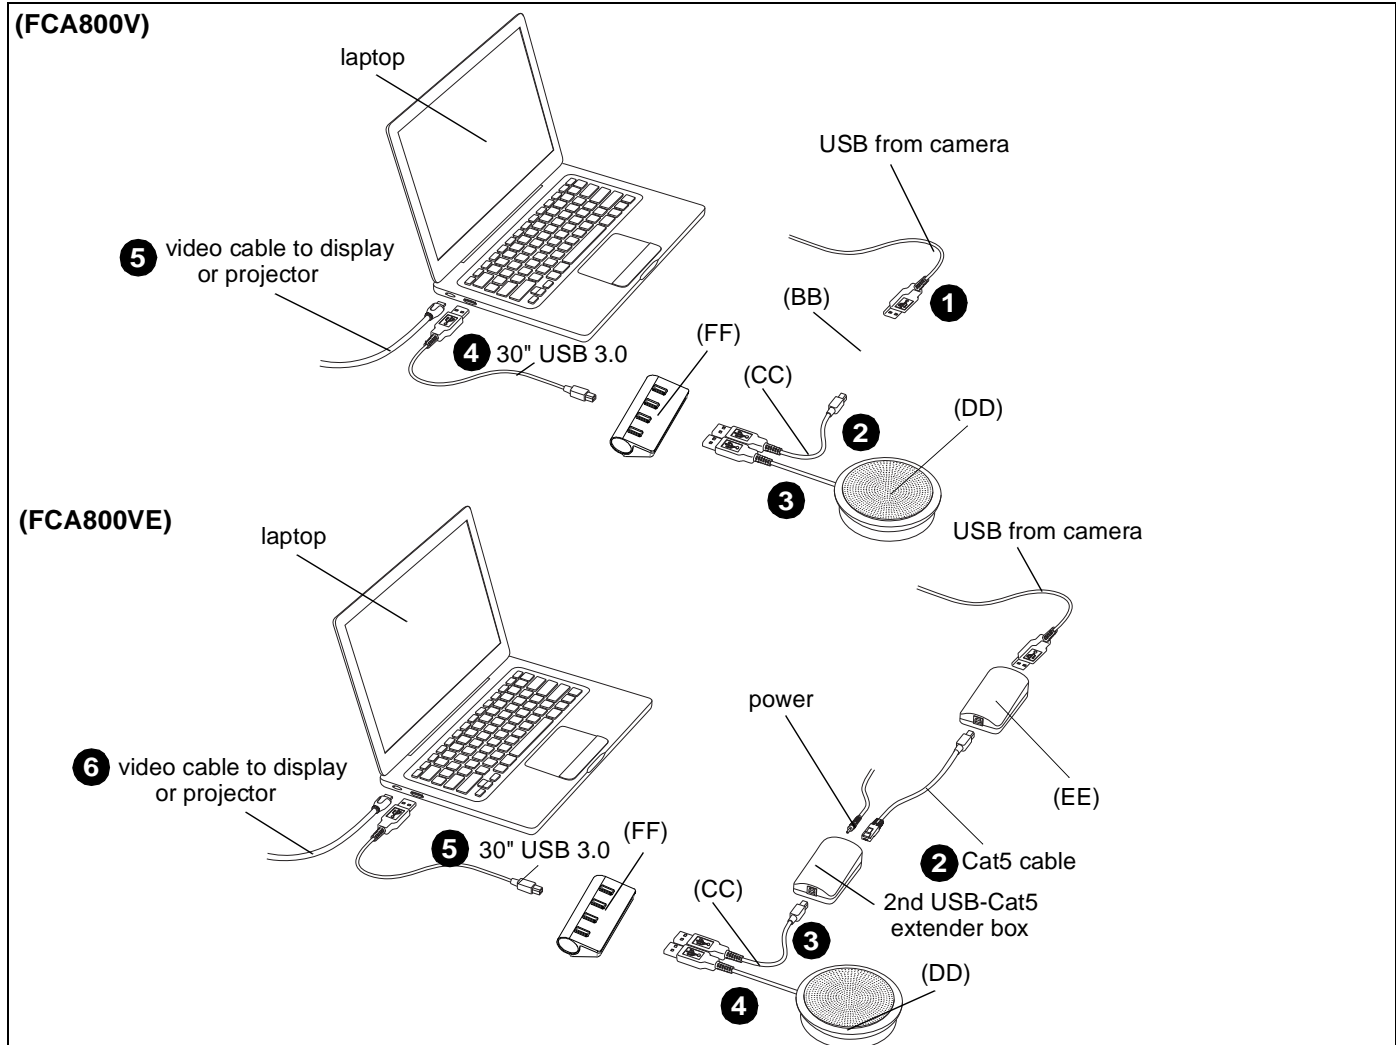

Figure 35
1. Connect camera to USB gender changer (BB) using USB cable supplied with camera. (See Figure 35)
2. Connect USB gender changer (BB) to 4-port USB hub (FF) using 10' USB cable (CC). (See Figure 35)
3. Connect speaker phone (DD) to 4-port USB hub (FF) using USB cable supplied with speaker phone. (See Figure 35)
4. Connect 4-port USB hub (FF) to computer using 30" USB 3.0 cable included with hub. (See Figure 35)
5. Connect computer to display or projector. (See Figure 35)
6. Verify the correct audio and video sources are selected in computer's settings (PC) or preferences (Mac). The camera will show up as "Logitech Webcam C930e."
1. Connect camera to USB extender box (EE) using USB cable supplied with camera. (See Figure 35)
2. Connect USB extender box (EE) to second USB extender box using CAT5 cable (not included). (See Figure 35)
3. Connect second USB extender box to 4-port USB hub (FF) using USB cable (CC). (See Figure 35)
4. Connect speaker phone (DD) to 4-port USB hub (FF) using USB cable supplied with speaker phone (DD). (See Figure 35)
5. Connect 4-port USB hub (FF) to computer using 30" USB 3.0 cable included with hub. (See Figure 35)
6. Connect computer to display or projector. (See Figure 35)
7. Verify the correct audio and video sources are selected in computer's settings (PC) or preferences (Mac). The camera will show up as "Logitech Webcam C930e."